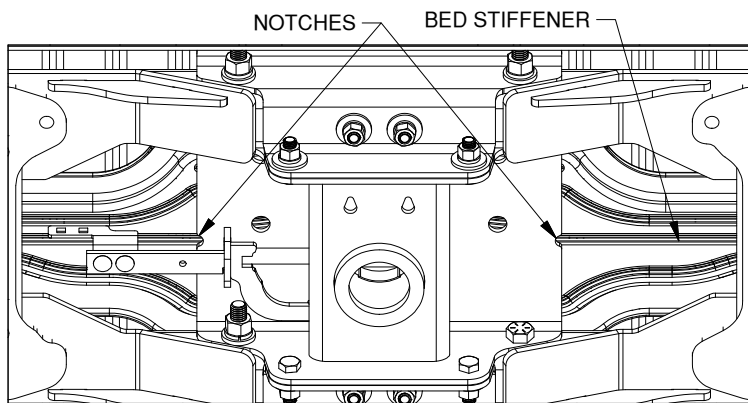

Figure E1: View looking up under the bed.
3. **Square the center section.** The center section has two small notches on each side, see Figure E1. To properly align the center with the bed stiffener, compare the location of these notches with the grooves on the stiffener. Rotate the center and cross members until the notches in the center section are equally aligned on both sides with the stiffener.